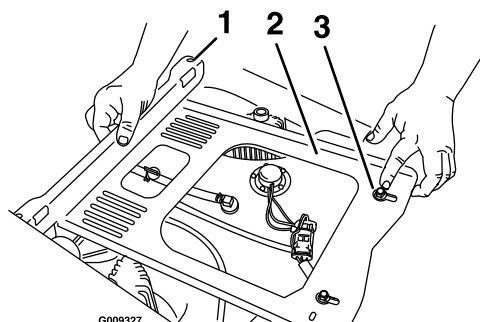

Figure 1
4. Remove the rear hardware, loosen the frame bolts, and slide the seat frame forward in the slots (Figure 1).